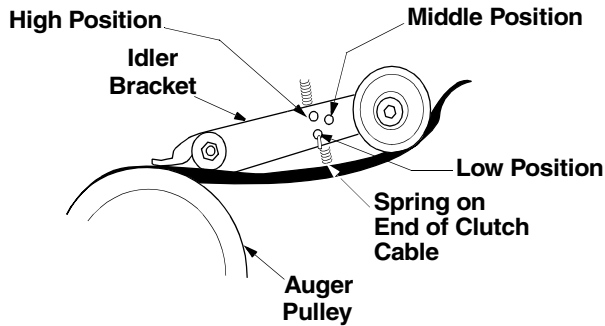

Figure 15
- There are three adjustment holes provided in the idler bracket assembly. For location of these holes, see Figure 15.